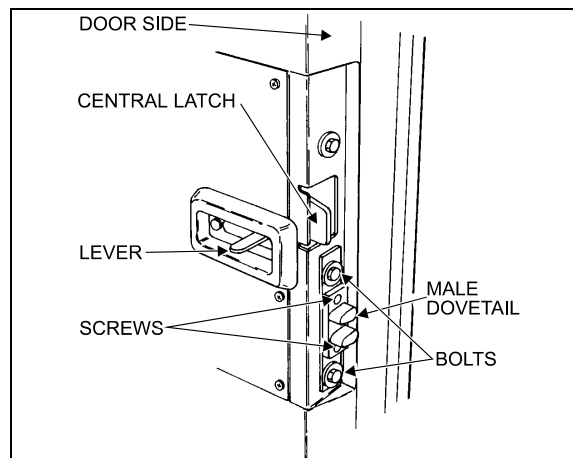

FIGURE 19: DOOR LATCH (COACH)
5. To adjust the male dovetail on L.H. side of the door, remove the two screws and loosen the two bolts. Slide the male dovetail toward the interior and loosely tighten the two bolts. Close the door slowly but firmly, then slowly open it and tighten the two bolts. Attach dovetail to the door with screws. See figure 19.